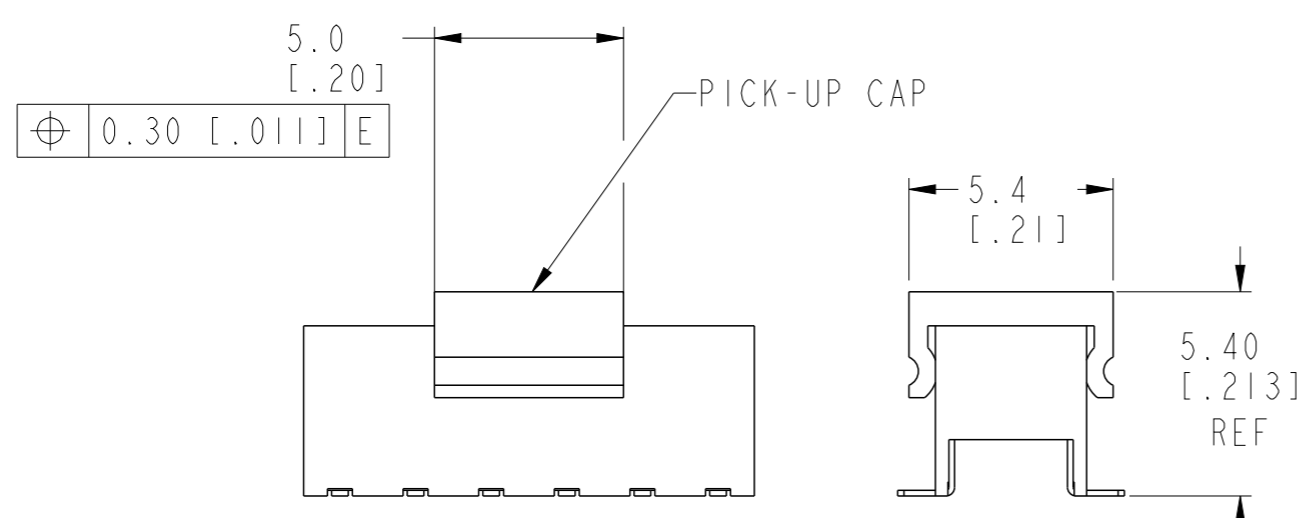

FIG. 1
- (b) XXXXXXXX-XXXTR --- TAPE AND REEL PACKAGING WITH PICK-UP CAP (FIG. 1).